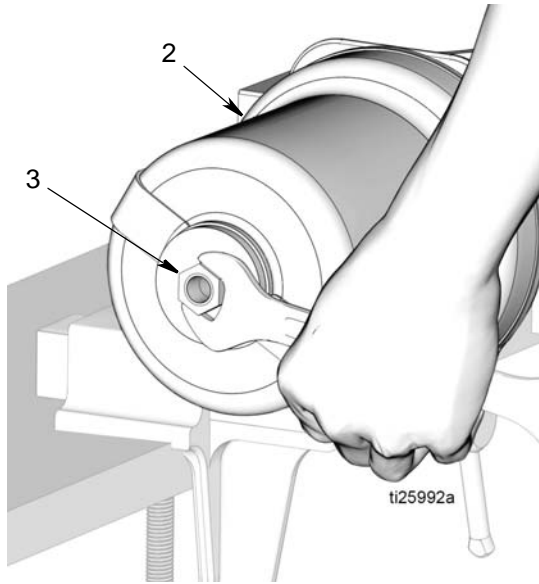

FIG. 55
- e. Thread piston stop nut (3) into top of air cylinder (2) as shown in FIG. 55. Wrench tighten nut. Then torque nut to 15 to 17 ft. lbs (20.3 to 23.1 N•m).